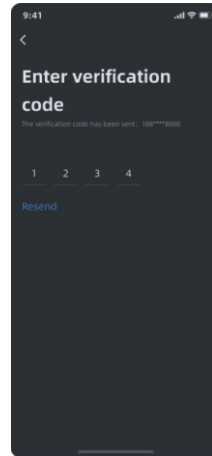

Figure 2
2) Figure 2: After entering the verification code, enter the password setting page.